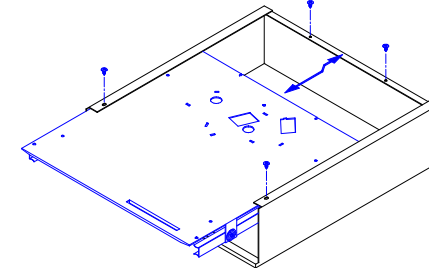

FIGURE 4 - REMOVING THE BASE FROM THE CASE
2. Remove the screws that secure the base to the case. Two are located along the back edge, and two are located along the front edge. See figure 4.